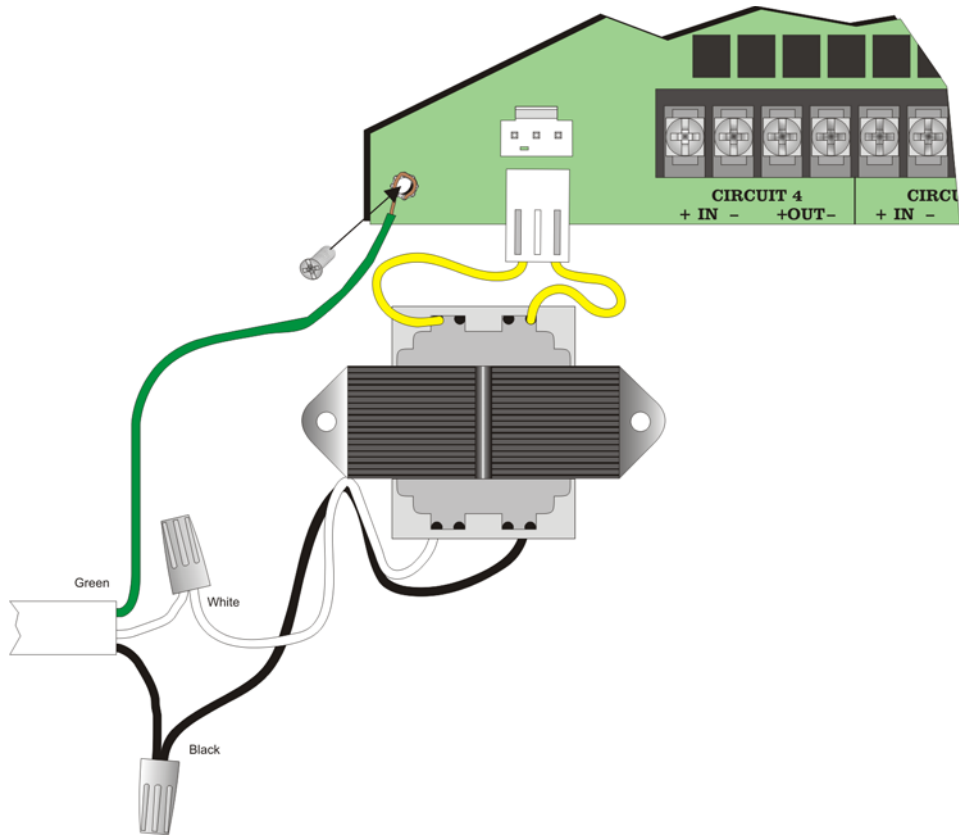

Figure 3-24 AC Connections
4. Connect AC to the Transformer as Shown in Figure 3-24.
5. Plug the transformer output to the AC connector on the control panel as shown in Figure 3-24.